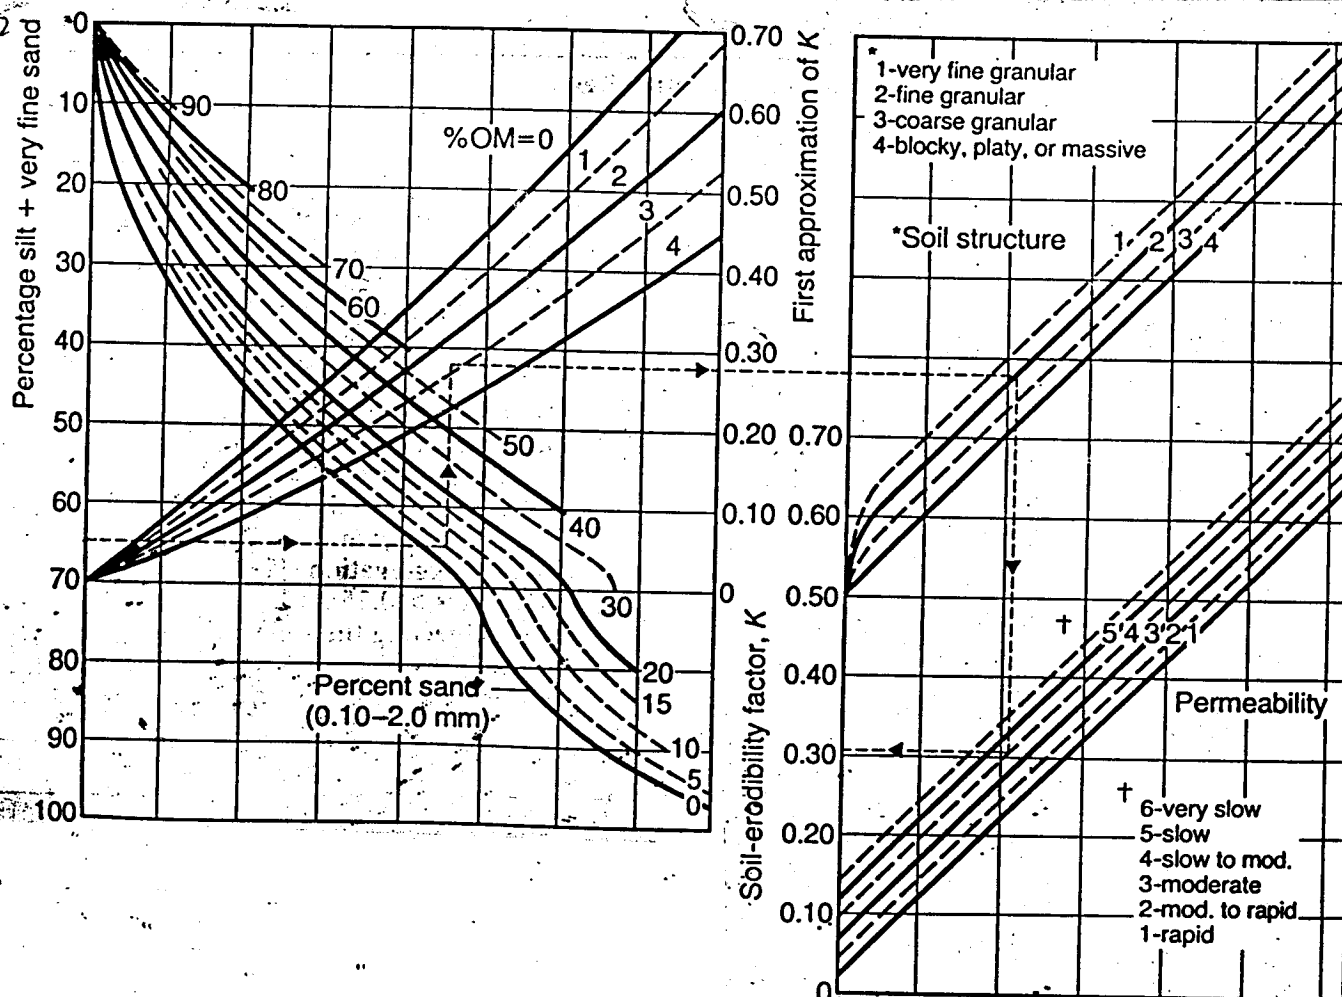

FIGURE 3
- (i) Calculate the Hydraulic radius,  $R$  (refer to figure 3),